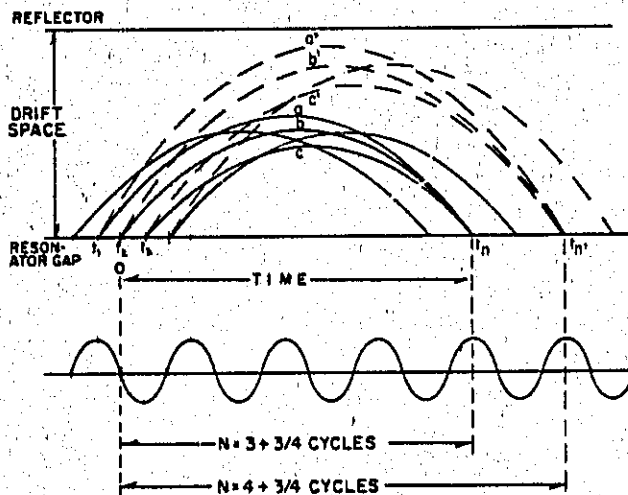
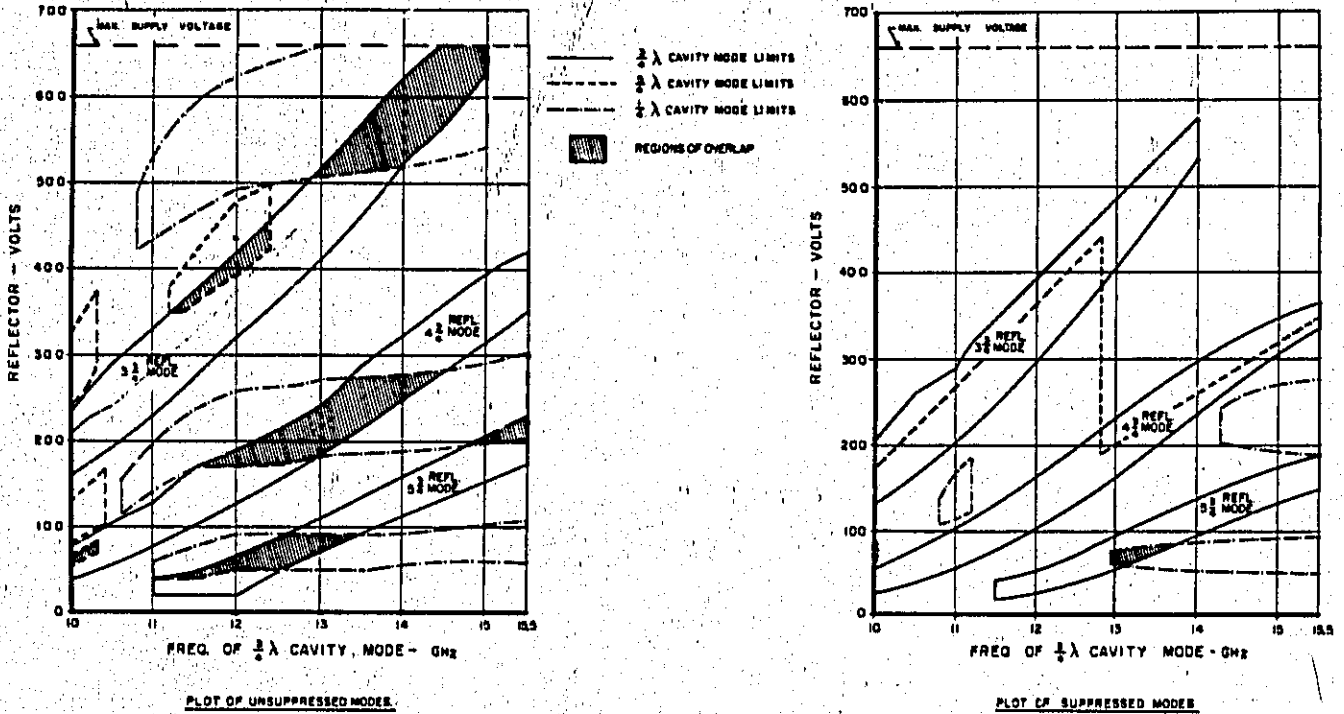

Figure 4-12. Bunching of Electrons in a Reflex Klystron
Figure 4-14. Graph Showing Klystron Oscillation Modes
4-42. This bunching of electrons is illustrated in Figure 4-12, which shows the transit time relationship of electrons while in the drift space between the resonator grids and the reflector. Consider an electron (a) leaving the grids at time  $t_1$ . The voltage of the RF signal on the grids is such that the electron receives energy and is accelerated into the drift space. It arrives back at the grids at time  $t_n$ . An electron (b) leaving at time  $t_2$  receives no acceleration because the RF signal is now at zero volts. Thus electron (b) does not travel as far into the drift space and arrives back at the grids at the same time as electron (a). Electron (c) leaving at time  $t_3$  is decelerated since the RF signal has reversed voltage polarity since time  $t_1$ . Electron (c) travels a shorter distance into the drift space and arrives back at the grids at the same time as electrons (a) and (b).
4-44. The time that the electrons spend in the drift space is adjusted by changing the reflector voltage. As reflector voltage is increased in the negative direction, electrons a, b, and c spend less time in the drift space. As reflector voltage is decreased electrons  $a^1$ ,  $b^1$ , and  $c^1$  (Figure 4-12) travel farther into the drift space and take a longer time ( $t_{n1}$ ) to return to the grids. At the low end of the frequency band (10.0 to 12.8 GHz.), the reflector voltage is adjusted so that the number of oscillations (N) that occur at the grid while the electrons are in the drift space is equal to 3-3/4 cycles. At the high end of the frequency band (12.8 to 15.5 GHz.), the reflector voltage is adjusted so that the number of oscillations equals 4-3/4 cycles. When the oscillator is operating with 3-3/4 cycles drift time it is known as operating in the 3-3/4 reflector mode. A plot of reflector modes with respect to frequency and reflector voltage is given in Figure 4-14.
4-48. As shown in the plot of modes, Figure 4-14, the 5/4 wavelength cavity mode interferes with the 3-3/4 reflector mode at the lower end of the band. This mode is suppressed by means of two tapered loads adjoining the cavity, parallel to the plunger, and by an adjustable load in the klystron cavity. The mode suppressors are shown in Figure 5-13. Since klystrons possess a natural tendency to oscillate on the 1/4 wavelength cavity mode, and since this mode is undesirable, it is suppressed by the use of a small cylindrical load coupled to the cavity; a small screw matches the cavity to this load. The matching screw is effectively shorted out of the circuit at approximately 11 GHz and below by a shorting switch actuated by a cam on the frequency-drive shaft (Figure 5-13).